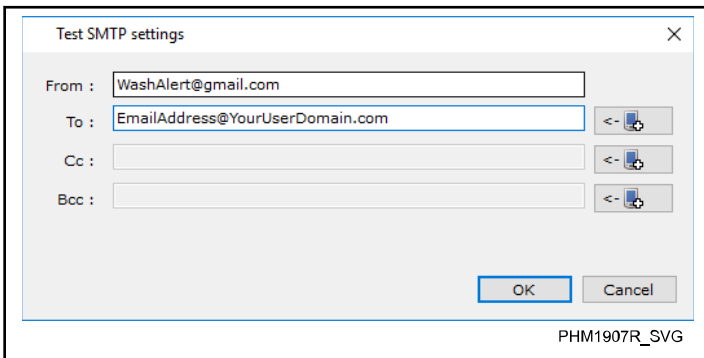

Figure 78
5. To test your SMTP settings click **Test SMTP Settings** and enter your From/To information. Refer to *Figure 78*.